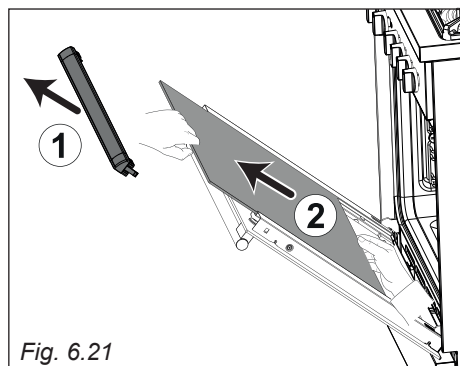
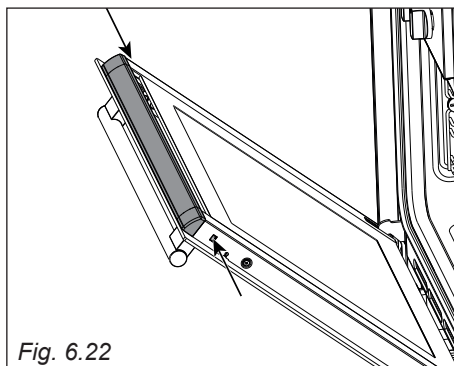

Fig. 6.21
Fig. 6.22
- Press the tabs on the sides of the glass retainer which is positioned at the top of the oven door (arrows in fig. 6.21), then gently remove the retainer (arrow 1 in fig. 6.22).
- Gently pull out the inner pane of glass (arrow 2 in fig. 6.22).